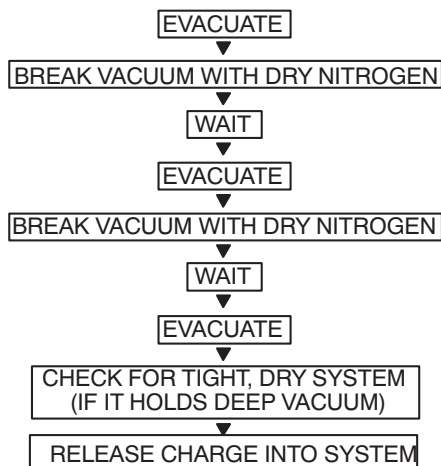

Fig. 21 —Triple Evacuation Method
The triple evacuation method should be used when vacuum pump is not capable of pumping down to 500 microns and system does not contain any liquid water. Refer to Fig. 21 and proceed as follows:
5. Repeat this procedure as indicated in Fig. 21. System is now free of any contaminants and water vapor.